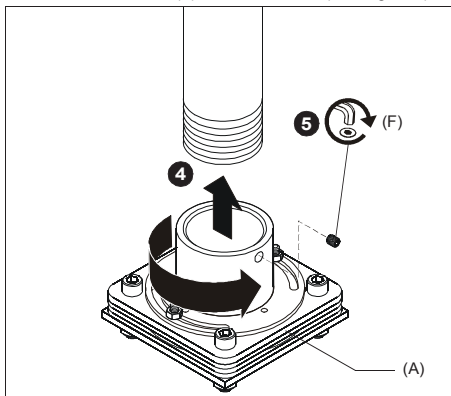

Figure 2
4. Thread swivel adapter (A) onto existing 1-1/2" NPT or NPSM threaded extension column until tight, with a minimum of four threads engaged. (See Figure 2)
5. Secure swivel adapter (A) to extension column using 5/16-18 x 3/8" set screw (F) and hex wrench. (See Figure 2)